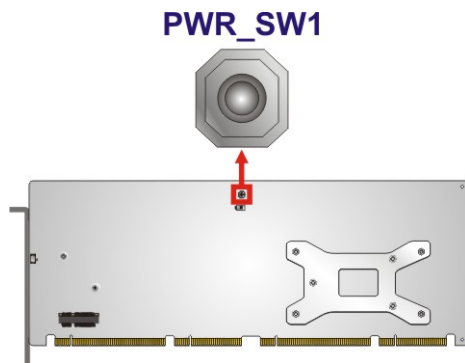

Figure 3-20: Power Button Location
- CN Location:** See **Figure 3-20**